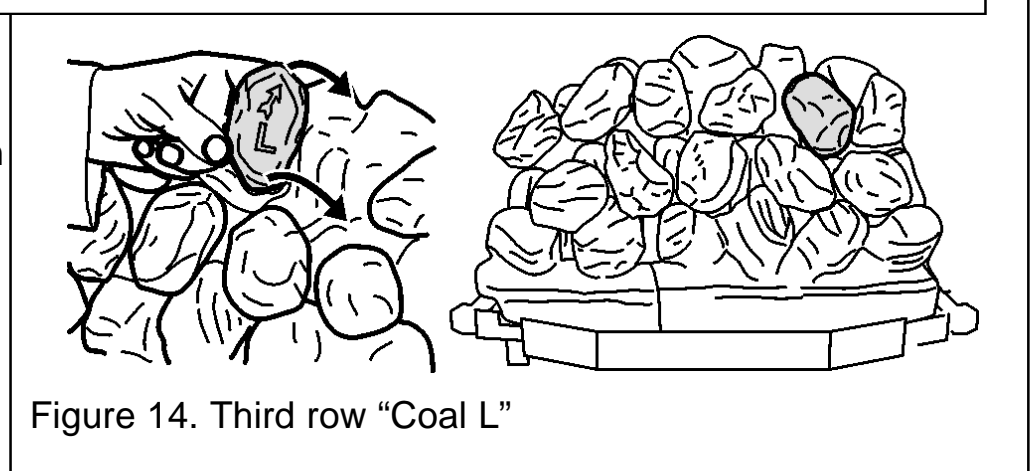

Figure 14. Third row "Coal L"
16. Hold coal 'L' upright with the arrow pointing to the top. Locate coal 'L' as shown in figure 14.